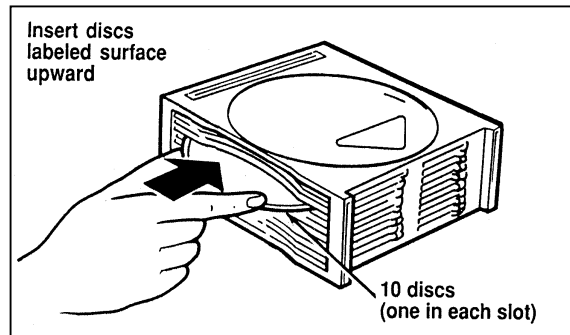

Figure 3
3. Load discs into disc magazine slots (numbered 1 through 10) one at a time with labeled surfaces upward, starting with bottom slot number 1 (Figure 3).